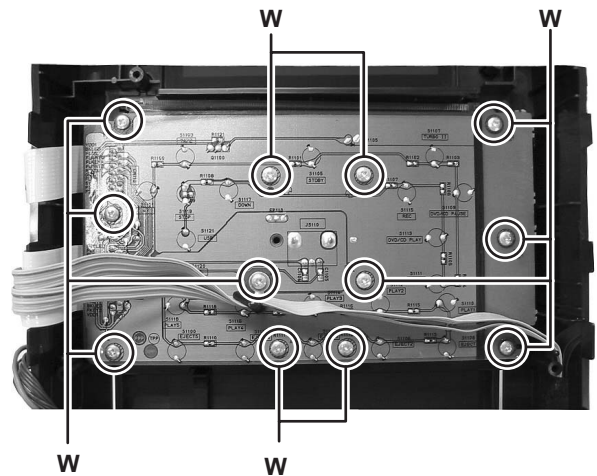

Fig.22
3.1.17 Removing the switch board (Fig.22)